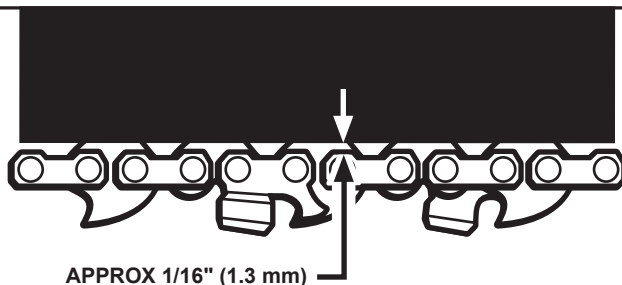

Fig. 15
- During normal operation, the temperature of the chain will increase. The drive links of a correctly tensioned warm chain will hang approximately 1/16" (1.3 mm) out of the bar groove, as shown in Fig. 15.